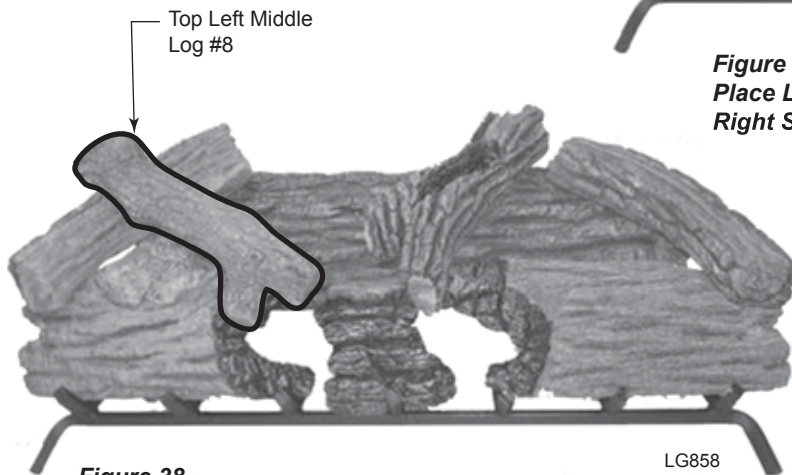

**Figure 38 -
9. Install top left middle log #8. *Figure 38*